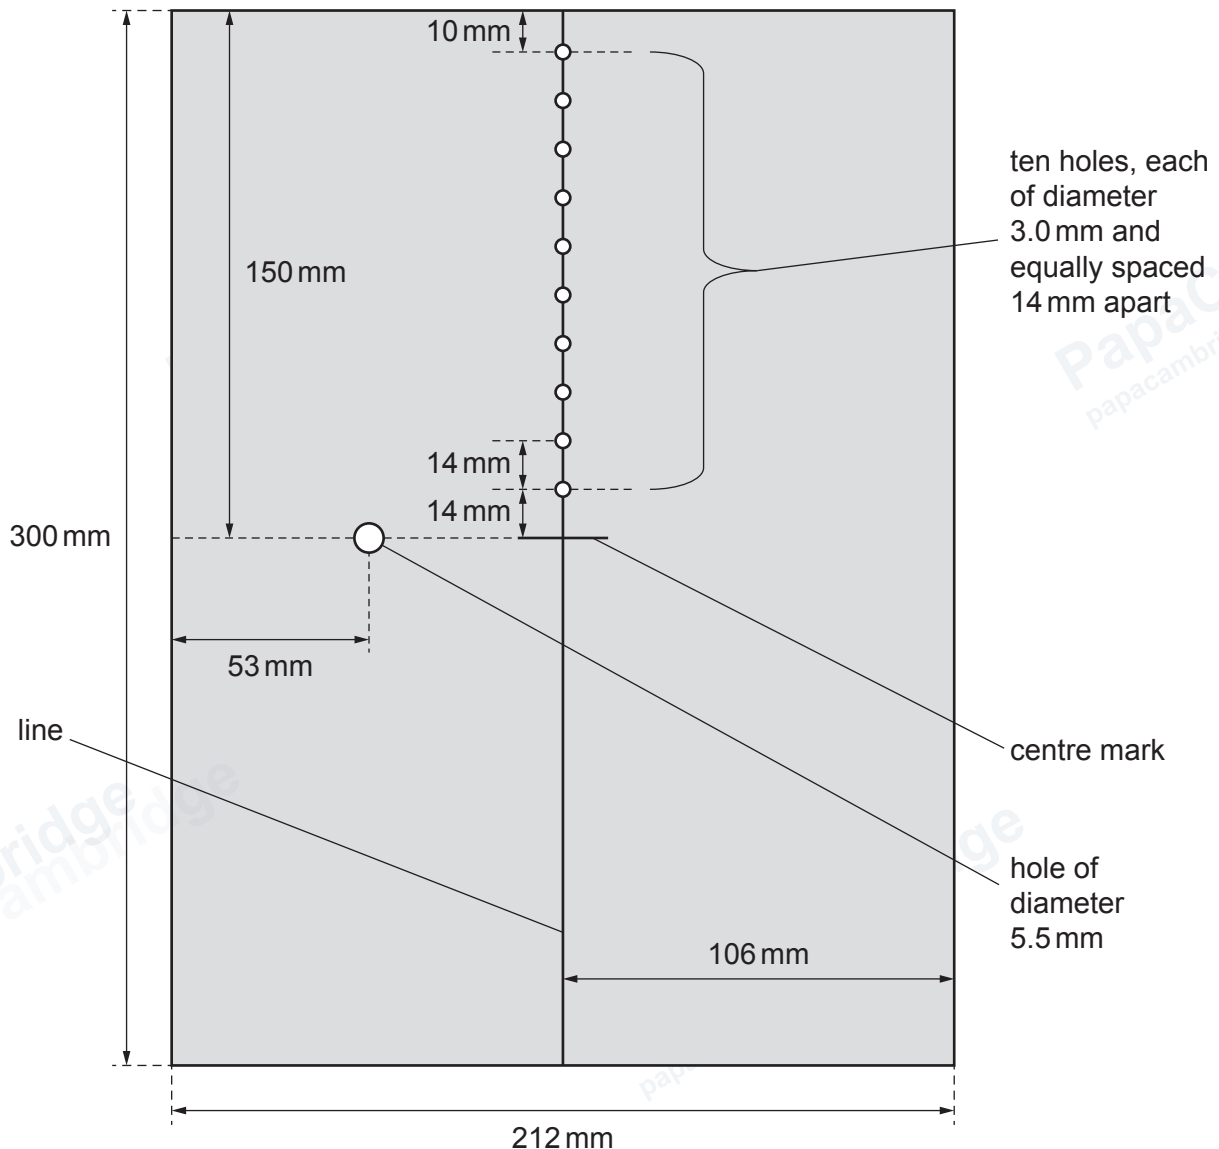

Figure 1.1
- 1 Draw a line down the centre of the board as shown in Figure 1.1.
Draw a short line at the midpoint of the centre line as shown in Figure 1.1.
Drill a hole of diameter 5.5 mm at the position shown in Figure 1.1.
Drill ten holes, each of diameter 3.0 mm, with their centres spaced by 14 mm in the locations shown in Figure 1.1.